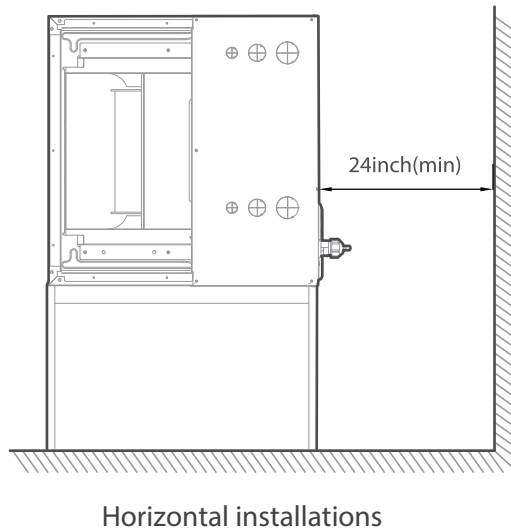

Fig. 8 — Horizontal Installations
- Allow sufficient space for airflow and unit servicing. See Fig. 8 — on page 6 for the minimum required distances between the unit and the walls or ceilings.